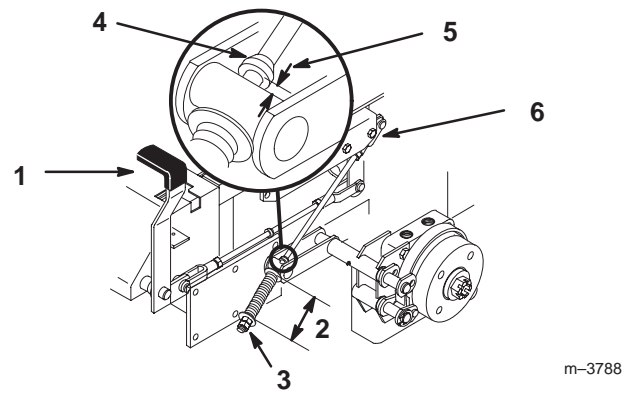

Figure 50
2. Measure the length of the spring. Measurement should be 2.75 in. (70 mm) between washers (Fig. 50).
3. If adjustment is necessary, loosen the jam nut below the spring and tighten the nut directly below the yoke (Fig. 50). Turn the nut until the correct measurement is obtained. Tighten the two nuts together and repeat on opposite side of unit.
- A. Measure the distance between the trunnion roller and the collar on brake rod. Measurement should be 3/16-1/4 in. (5-7 mm) (Fig. 50).
6. If adjustment is necessary, loosen the jam nut directly below the yoke. Turn the bottom rod until the correct measurement is obtained (Fig. 50). Tighten jam nut at yoke